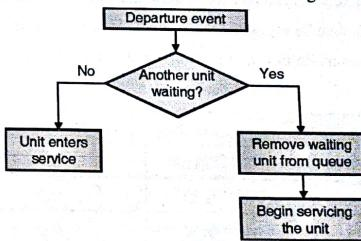

Fig. 2.2.4 : Departure Event
- The flow diagram for the departure event is as shown in Fig. 2.2.4 :